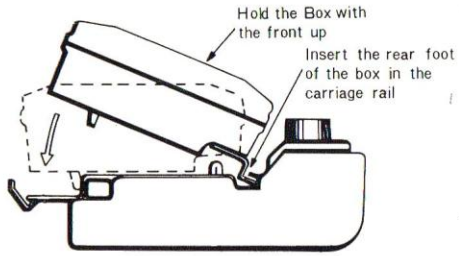

Fig. 10
b. The metal foot of the accessory box must be fitted into the rail of the needle bed. (See Fig.10)